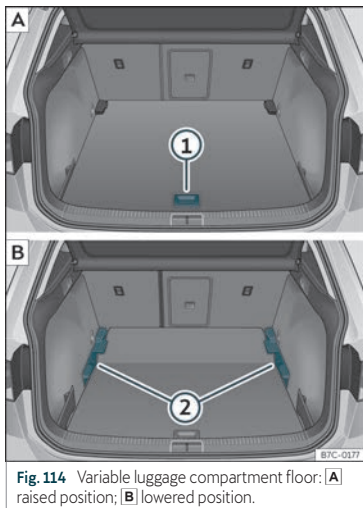

Fig. 114 Variable luggage compartment floor: **A** raised position; **B** lowered position.
- To move from the low position to the high position, lift the floor using the handle >>> **Fig. 114** ①, and pull it back until the front of the floor has fully passed the supports >>> **Fig. 114** ②.
- Move the floor forward over the supports as far as the rear seat backrest and then lower the floor with the handle ①.
- To move from the high position to the low position, lift the floor using the handle >>> **Fig. 114** ①, and pull it back until the front of the floor has fully passed the supports >>> **Fig. 114** ②.
- Now let the front part fall to the floor and slide the floor forwards as far as the rear seat backrest; lower the floor at the same time with the handle ①.
- Lift the variable floor in the high position using handle >>> **Fig. 114** ①, pull it up and push it towards the backrest of the rear seats until it folds along the hinge line and the movable part of the floor is resting on itself.
- To move from the high position to the low position, lift the floor using the handle >>> **Fig. 114** ① and pull it back a little.
- Push the variable floor towards the folded rear seats with the handle ① using some downward pressure so that the moving part of the floor is flush with the backs of the rear seats.